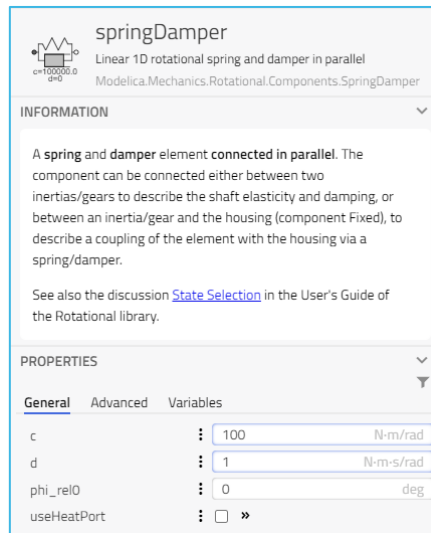

Figure 12 Parameter settings for *springDamper*
- a. Select the **springDamper** component to set its parameters (See Figure 12):